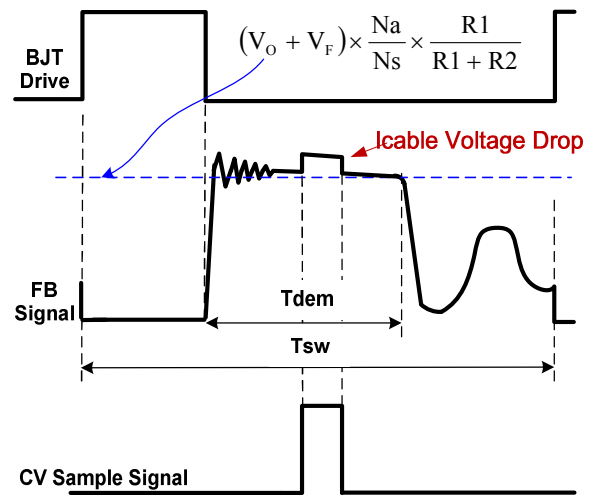

Fig.2
In primary side control, the output voltage is sensed on the auxiliary winding during the transfer of transformer energy to the secondary. Fig.2 illustrates the CV sampling signal timing waveform in DP2525JA. As shown in Fig.2, it is clear that there is a down slope representing a decreasing total rectifier  $V_f$  and its voltage drop as the secondary current decreases to zero. To achieve an accurate representation of the secondary output voltage on the auxiliary winding, the CV sampling signal blocks the leakage inductance reset and ringing. When the CV sampling process is over, the internal sample/hold (S&H) circuit captures the error signal and amplifies it through the internal Error Amplifier (EA). The output of EA is sent to the Primary Side Constant Voltage Modulator (PSR-CVM) for CV control. The internal reference voltage for EA is trimmed to 2V with high accuracy.
During the CV sampling process, an internal variable current source is flowing to FB pin for Cable Drop Compensation (CDC). Thus, there is a step at FB pin in the transformer demagnetization process, as shown in Fig.2. Fig.2 also illustrates the equation for “demagnetization plateau”, where  $V_o$  and  $V_f$  is the output voltage and diode forward voltage;  $R_1$  and  $R_2$  is the resistor divider connected from the auxiliary winding to FB Pin,  $N_s$  and  $N_a$  are